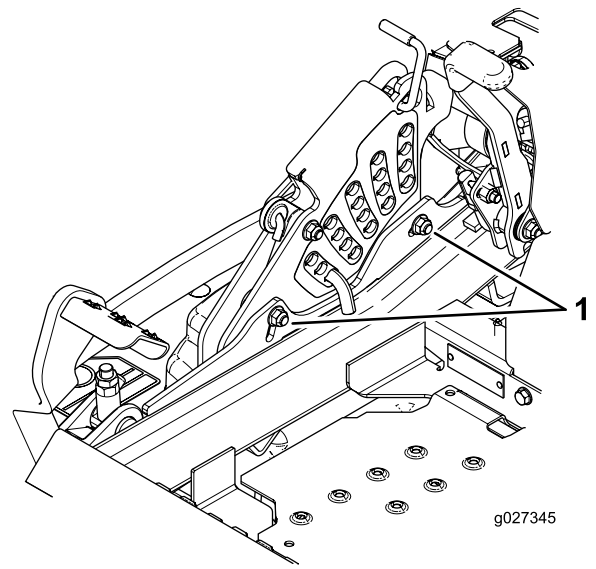

Figure 94
10. To adjust the single-point system, loosen the 2 bolts at the bottom of the height-of-cut plate (Figure 94).
12. Tighten the 2 bolts at the bottom of the height-of-cut plate (Figure 94).